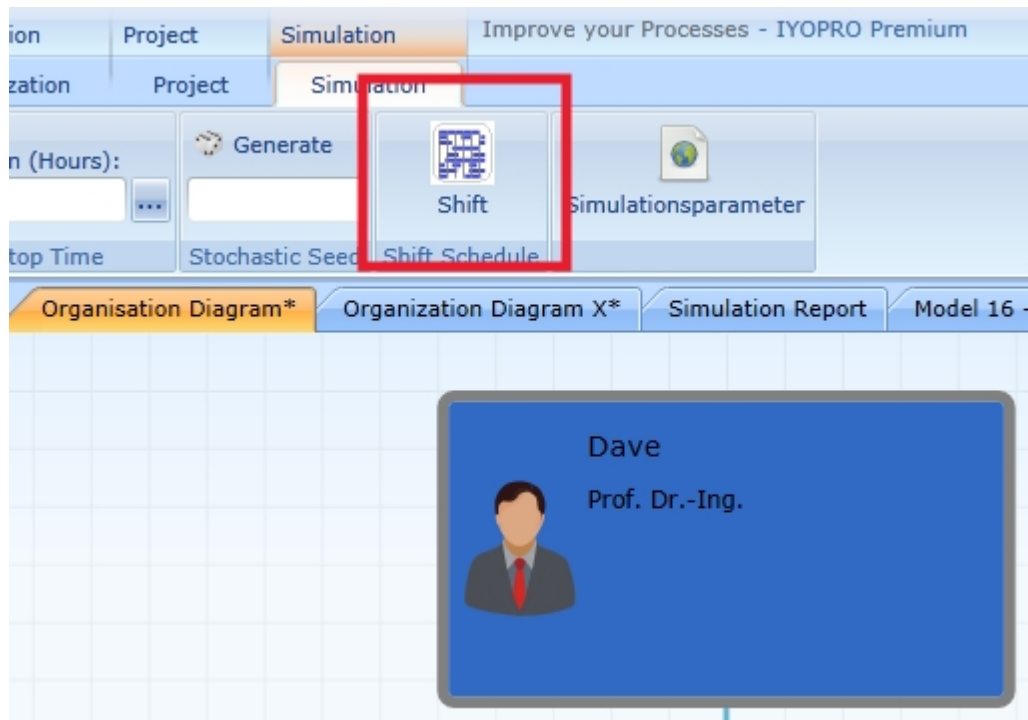

Figure 1: Location of shift editor button
- You should see the Shift-button as depicted in figure 1